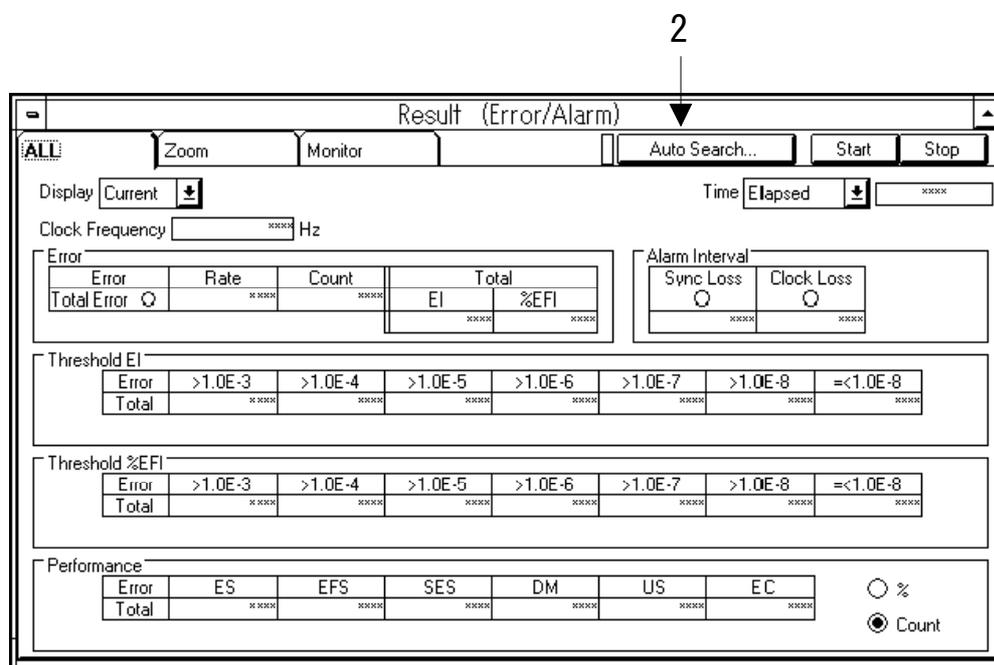

Fig. 5-32 Result: All panel
2. Press the Auto Search button. The Auto Search dialog box will be opened. Figure 5-32 shows the case of a Result subwindow when the error/alarm measurement is specified in the Test Menu subwindow. This operation is the same if other measurements are specified.